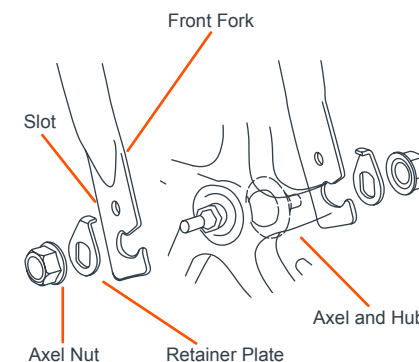

Fig. 3
- 3) • Slide the retainer plate onto the front wheel. Be sure that the raised lip is pointing toward the fork and insert it into the slot on the fork. The tab on the retainer plate must be lined up with the slot before tightening the wheel (Fig. 3).